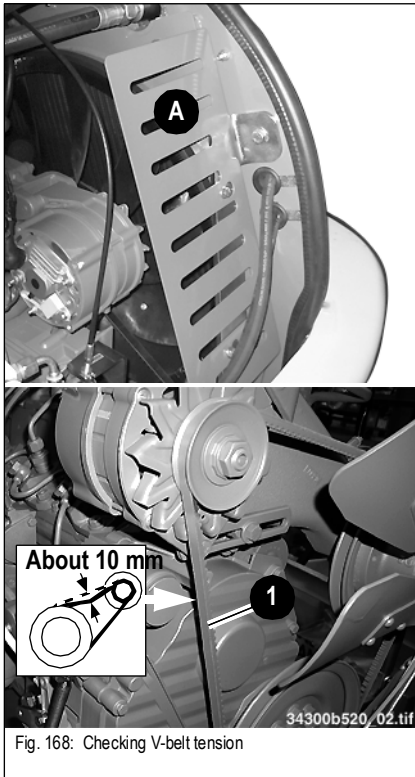

Fig. 168: Checking V-belt tension
- Remove protective cover **A** (see Fig. 168)
- Use a suitable tool to push the alternator in the direction of arrow **A** until the correct V-belt tension is obtained (fig. 168)
- Check V-belt tension (fig. 168) after about 15 minutes
- Install protective cover **A** (see Fig. 168)